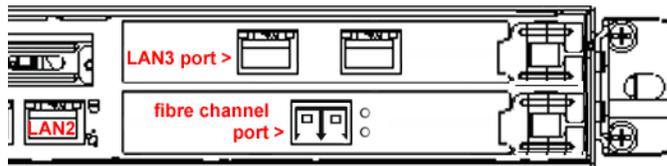

Figure 1: Diagram showing right portion of SR 730 chassis rear
- A. Plug one end of the CAT-5E crossover cable into the SR unit's LAN 3 port—the port to the left, located in the upper right section on the rear of the SR unit (see Figure 1, LAN3 port on a 730 model).
- B. Plug the fibre channel cable into the port on the lower right section of the SR unit (see Figure 1, fibre channel port on a 730 model).